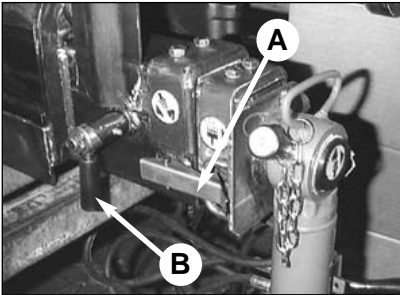
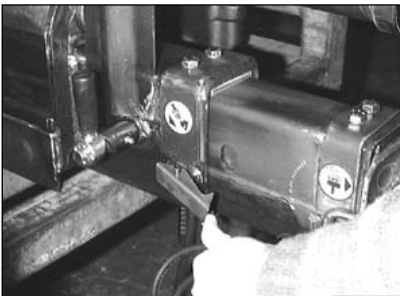

fig. 10
fig. 10a
- Position the lever **B** of the locking device (fig. 10), placed on the base, upwards (fig. 10a); the spring loaded security pin of the device will be released from its position.
- Release the locking device (fig. 10a) bringing it to the outside of the hook spring **A** and simultaneously pull, extending from the base, the outrigger support assembly (first and second support).